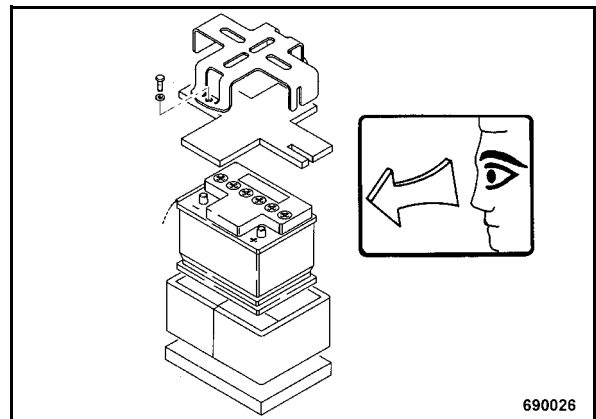

Fig. 52
- Clean the condition of the vibration insulation mats, replace if necessary (Fig. 52).